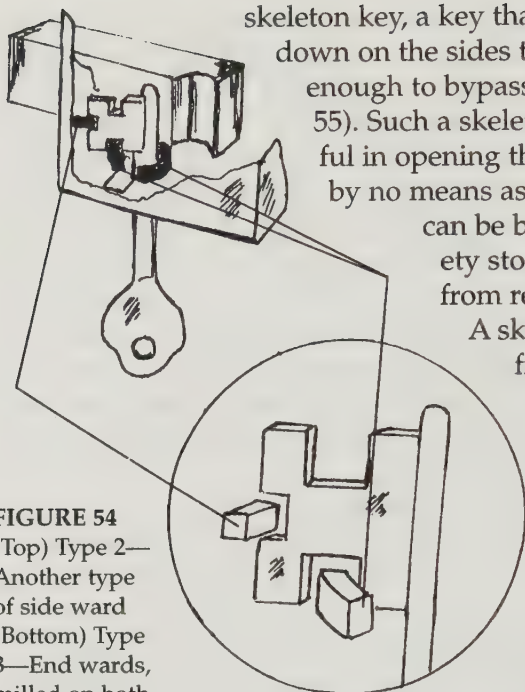

FIGURE 54
- Type 2—Another type of side ward is designed to allow only a key with the slot milled on the side of the key (Figure 54).
- Type 3—An end ward only allows a key with a slot milled on the end of the key to pass the ward (Figure 54). End wards are commonly milled on both ends, so the key then can be used from both sides of the lock.